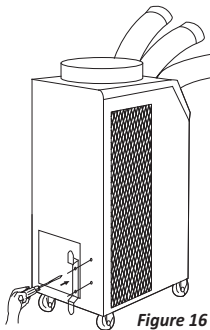

Figure 16
3. Use screws (enclosed inside of accessory box with cord holder) to install the cord holder on the air conditioner as shown in Figure 16.